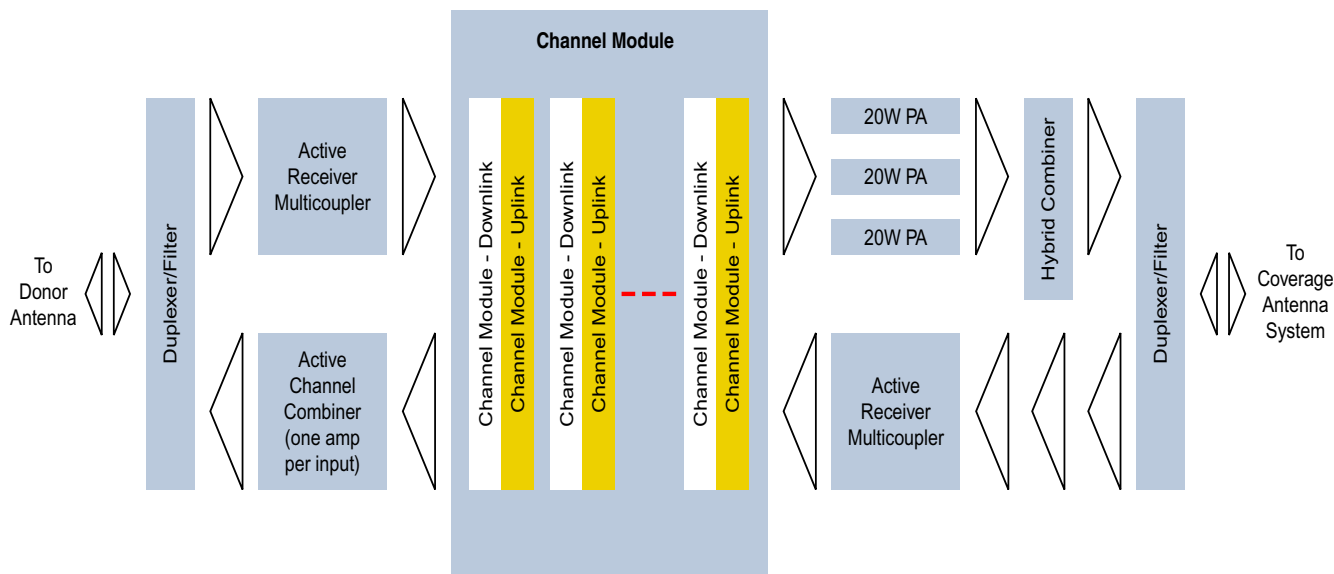
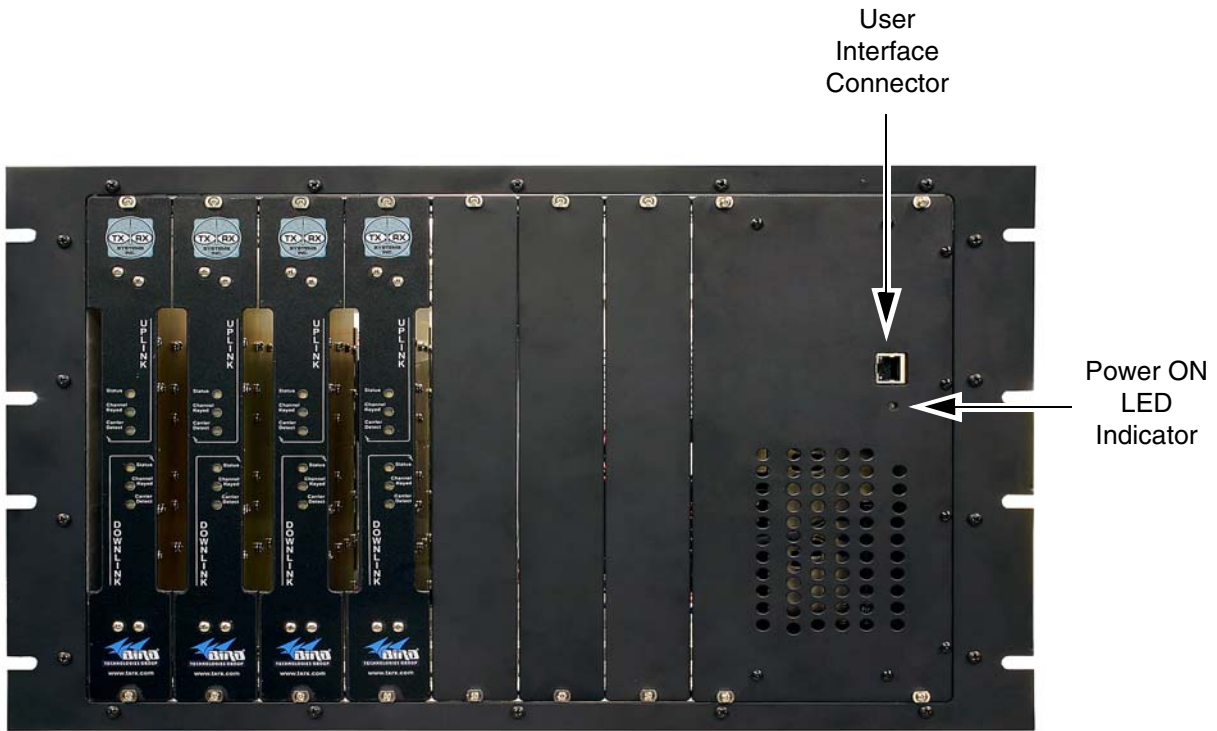

Figure 3: Functional block diagram of the channelized signal booster.
Figure 4A: Module housing front view.
- Figure 3: Functional Block Diagram 4**
- Figure 4A: Module housing Front View 5**
Figure 3 is the functional block diagram of the channelized signal booster model 611-70. **Figure 4A and 4B** show the front and rear views of the module housing.